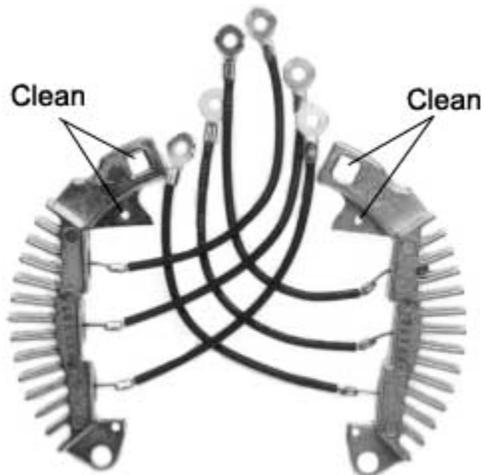

Figure 17
6.1 Clean rectifier assembly screw holes for good electrical contacts (Figure 17).